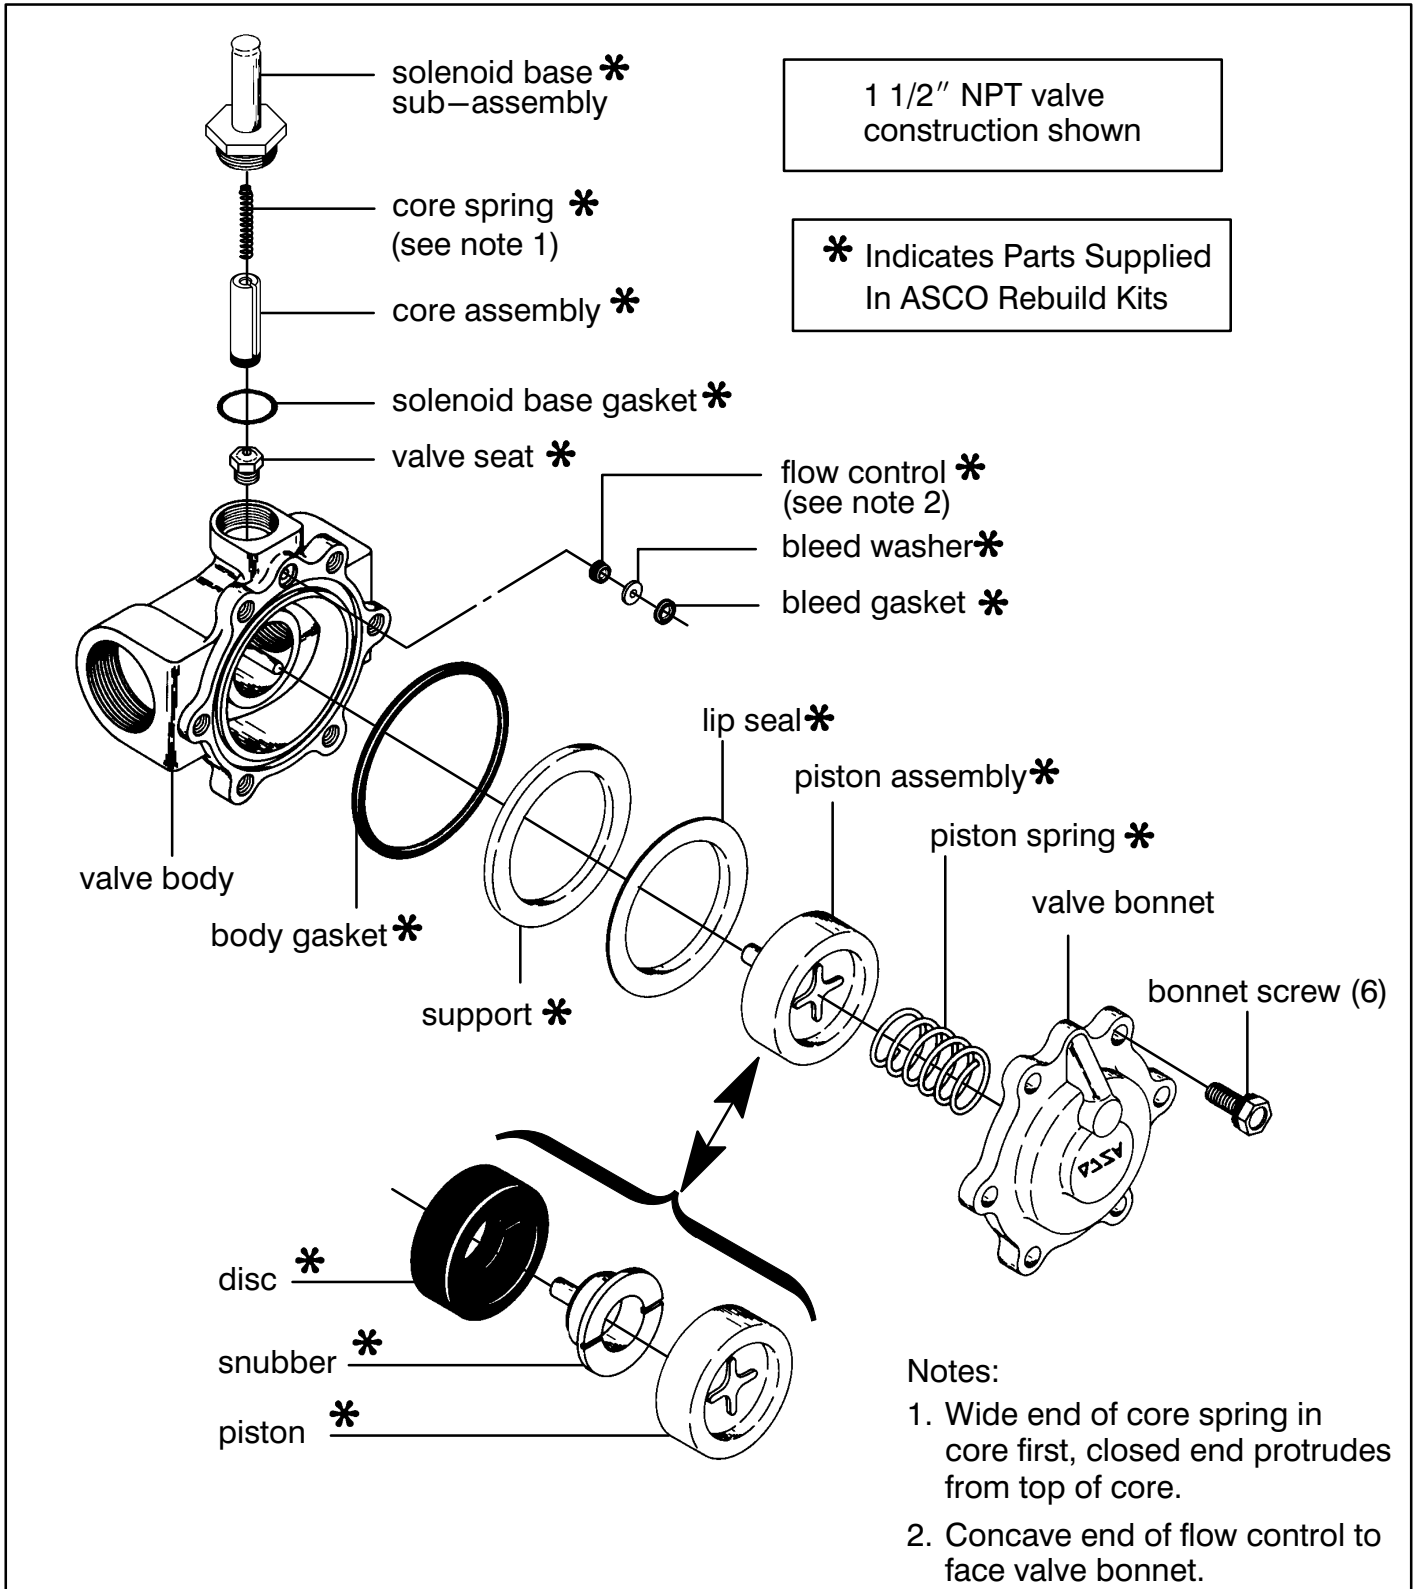
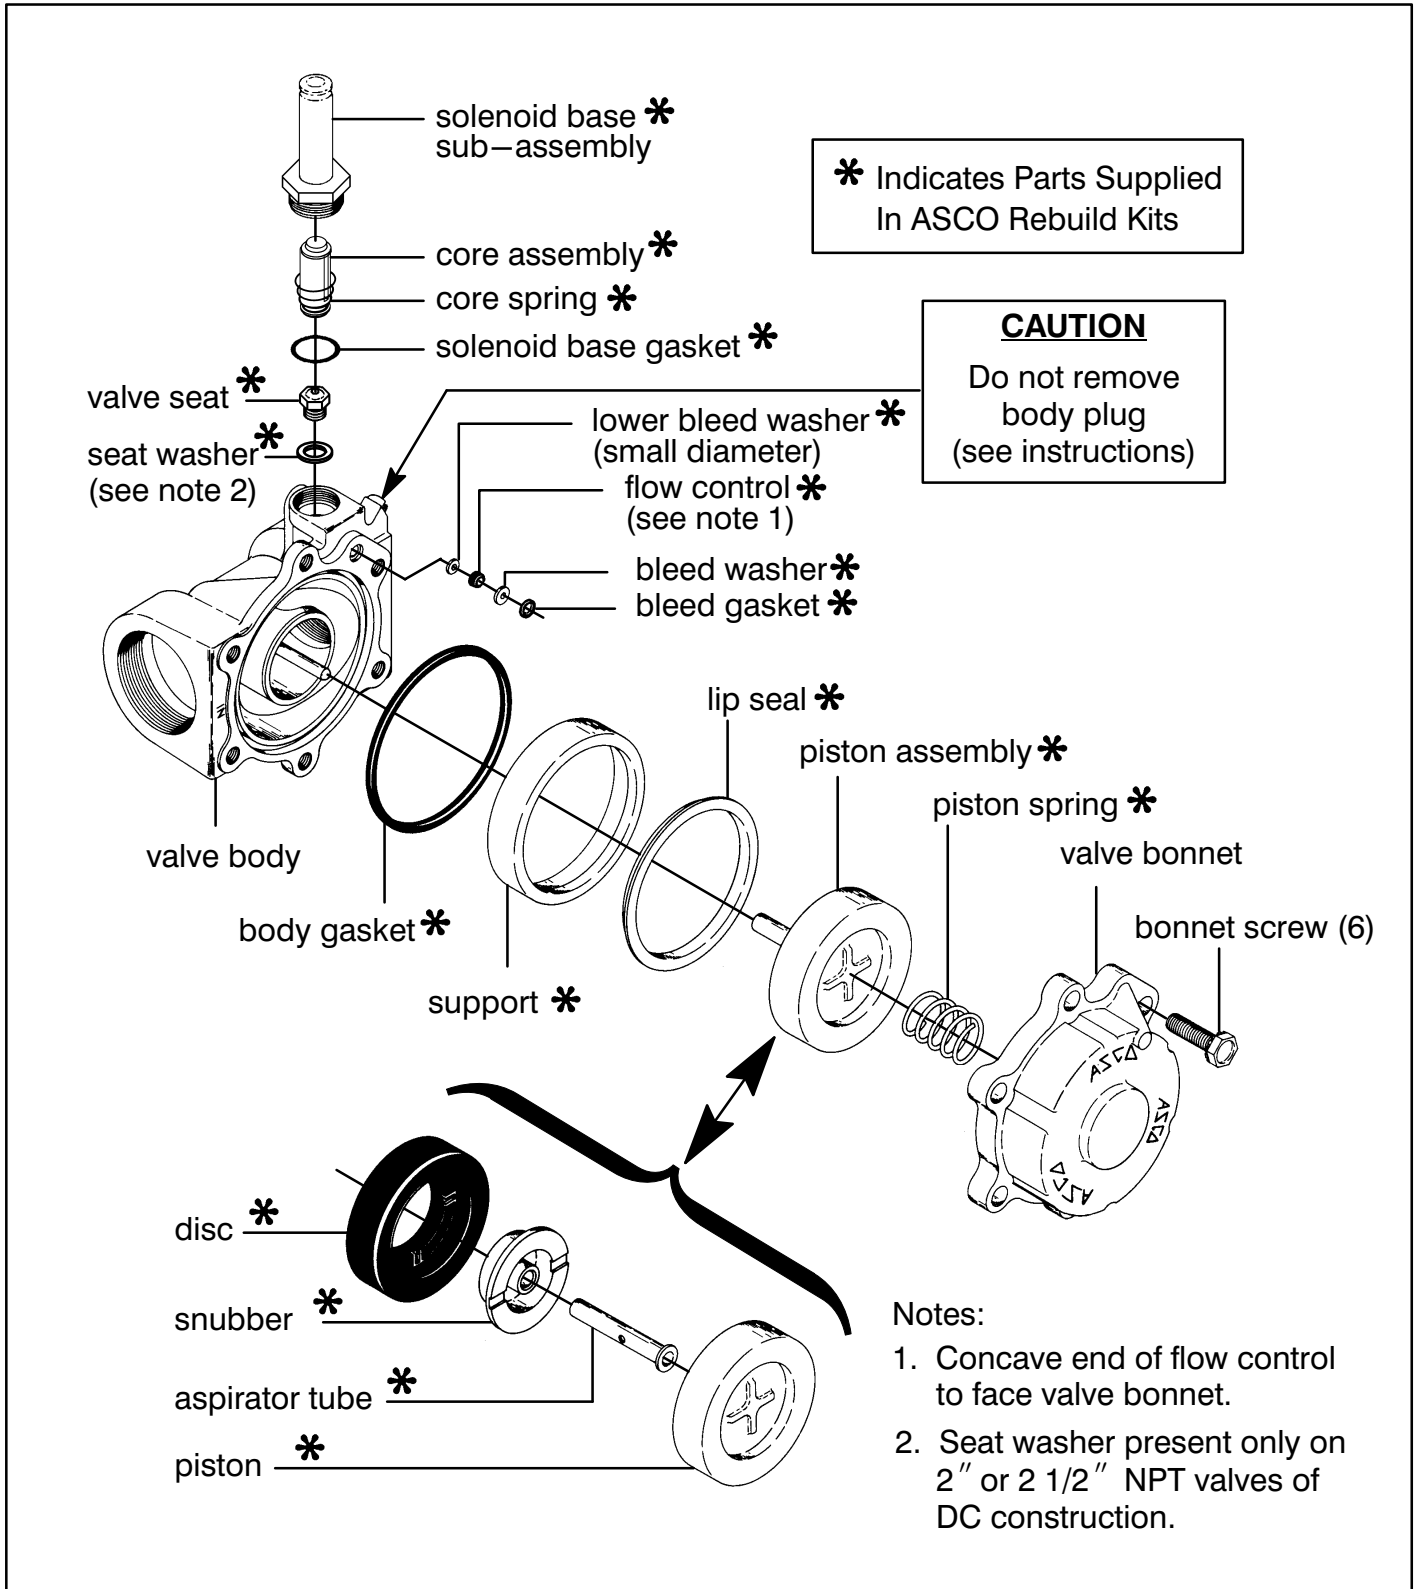

Figure 1. Series 8221, 1", 1 1/4" or 1 1/2" NPT, AC construction shown.
Figure 2. Series 8221, 2" or 2 1/2" NPT, DC construction shown.
Note: Refer to Figure 1 for AC construction and 1", 1 1/4" or 1 1/2" NPT (pipe size). Refer to Figure 2 for DC construction and 2" or 2 1/2" NPT (pipe size).
4. For normal maintenance (cleaning), it is not necessary to remove the valve seat. However, for valve seat removal use a 7/16" thin wall socket wrench. For DC construction 2" or 2 1/2" NPT only (Figure 2), remove seat washer.
Note: For AC construction (Figure 1), position wide end of core spring in core first, closed (tapered) end protrudes from top of core.